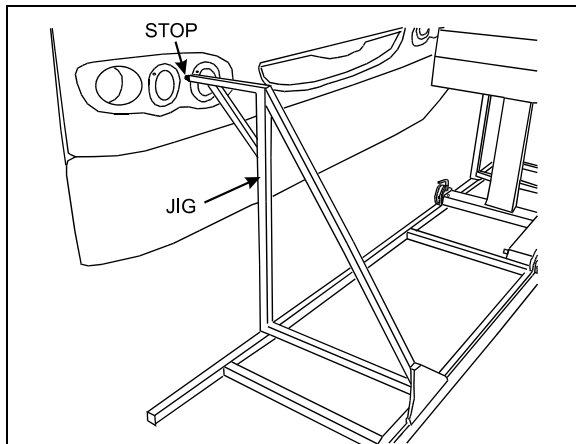

FIGURE 44: INSTALLATION OF JIGS 06499
3. Install jigs #29263 and #29262 onto the support rail. Position the support rail so that both stops are centered between the two beams (Fig. 44). Mark the position for future reference.